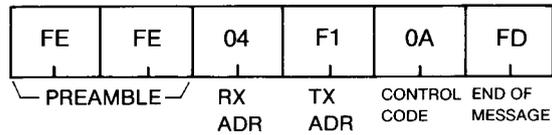

Fig. 41
- (1) The controller can transfer information from a memory channel in the IC-735 to a VFO. This is the same function as M > VFO on the front panel.
- (2) If the controller sends out a packet such as in Fig. 41, the information of the displayed MEMORY CHANNEL is transferred to a VFO.